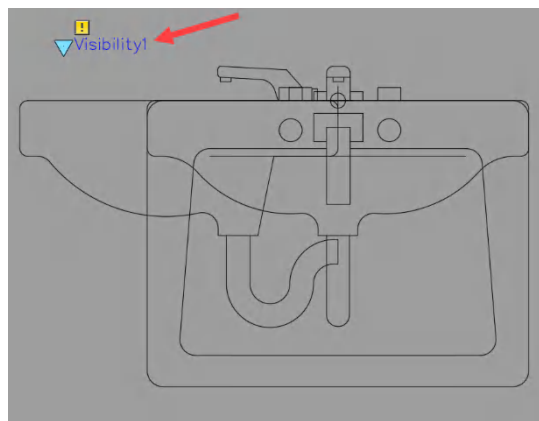

Figure 12.23: The Visibility parameter shown placed in Block Editor
5. You will be prompted for the parameter's location. You need to select a point close to the regular blocks but not directly on them, as shown in *Figure 12.23*. This is because the **Visibility** parameter will be displayed on the dynamic block when it is used in a drawing.